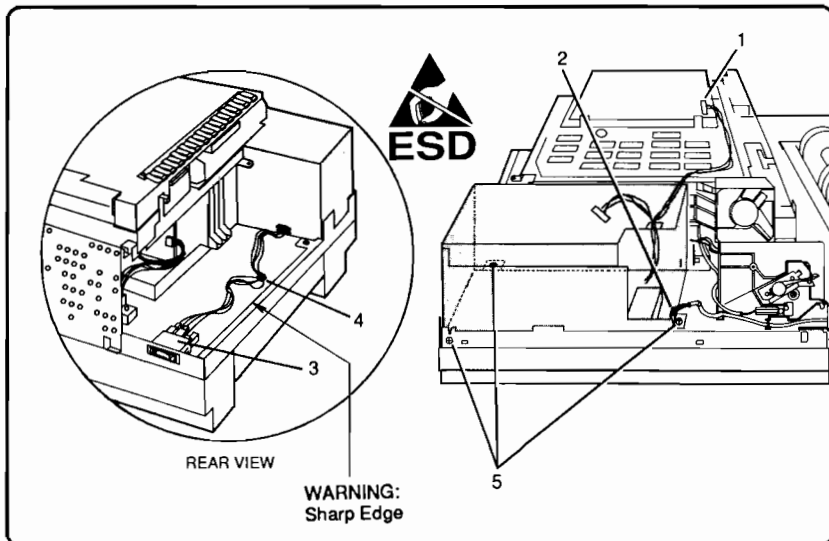

Figure 6-38. Power Supply Removal
5. Unplug connector J212 from the DC Controller and release it from its cable retainers (see Figure 6-38, callout 1).
6. Squeeze connector J101 to unplug from the Power Supply (see Figure 6-38, callout 2).
7. Avoid the **sharp edge** at the rear of the printer and unplug the Power Supply connector from the Main Power Switch (see Figure 6-38, callout 3).
8. Using needlenose pliers, squeeze the switch/connector cable tie from underneath the printer base and pull up to remove the tie from the base (see Figure 6-38, callout 4).
9. Remove the (3) short screws with star washers securing the Power Supply to the Bottom Cover (see Figure 6-38, callout 5).
5. Remove the Power Supply Assembly (see Figure 6-38).
5. Remove the Power Supply Assembly (Figure 6-38).